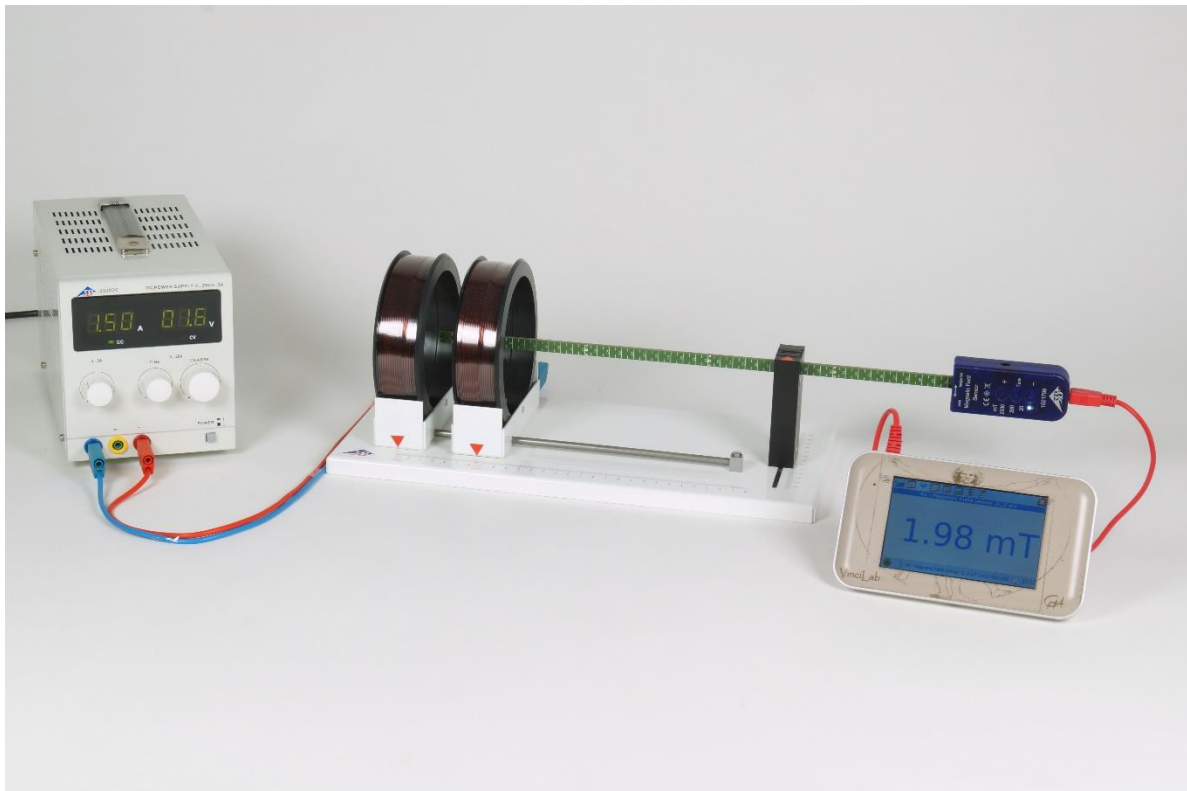

Figure 1: Experiment set-up
- Set up the experiment according to figure 1.